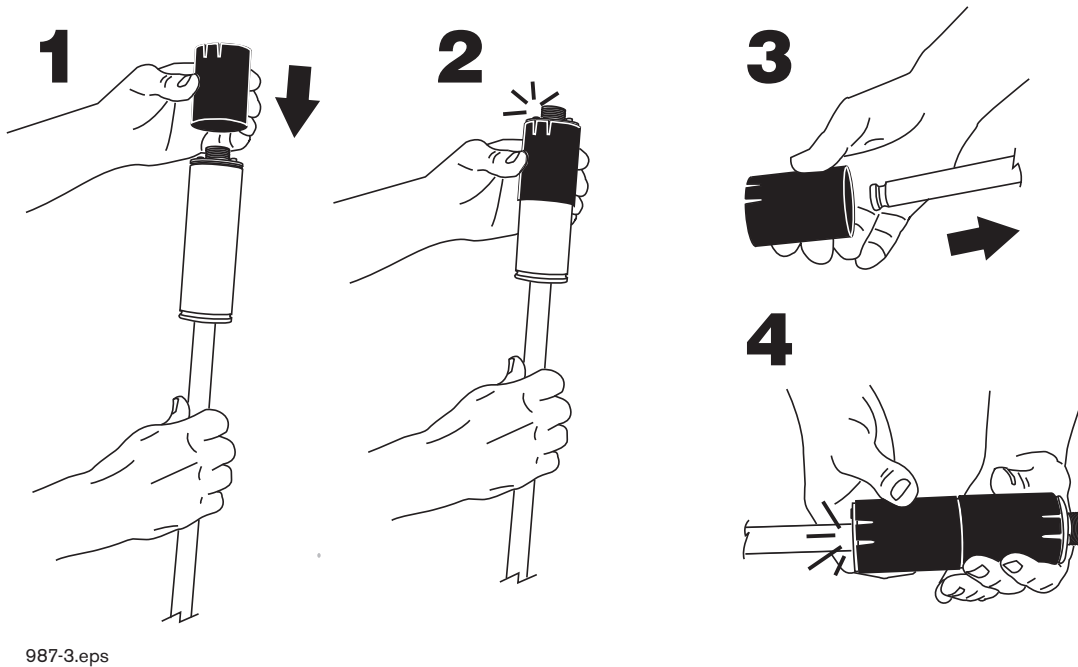

Figure 2. Installing Probe Canister Insulator Sleeves
2. Install the two canister sleeves onto the probe canister as shown in Figure 2.